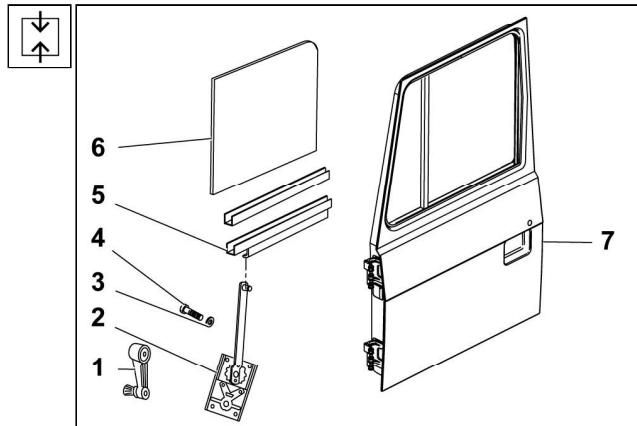

Fig. 13.28 Door window regulator - installation
5. Fit the drop window crank **1** (See Fig. 13.28) on the shaft of the door window regulator **2**, check the door glass lifting and lowering for a correct function and remove the crank.